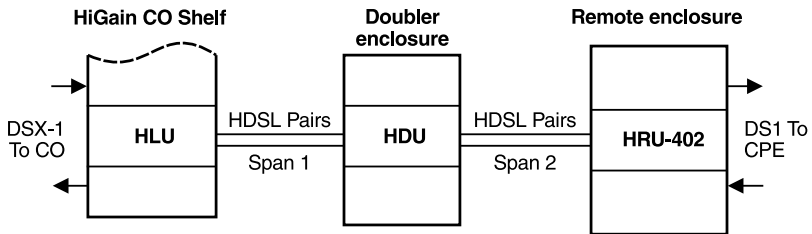

Figure 1. Typical HiGain System
Figure 1 shows a basic HiGain configuration for a T1 High-bit-rate Digital Subscriber Line (HDSL) circuit. The HLU is installed at the Central Office (CO) shelf and the remote unit is housed in a remote enclosure at the Customer Premises Equipment (CPE) site. Optional HDUs provide the ability to double or even triple the distance range for customer applications located outside the CSA.